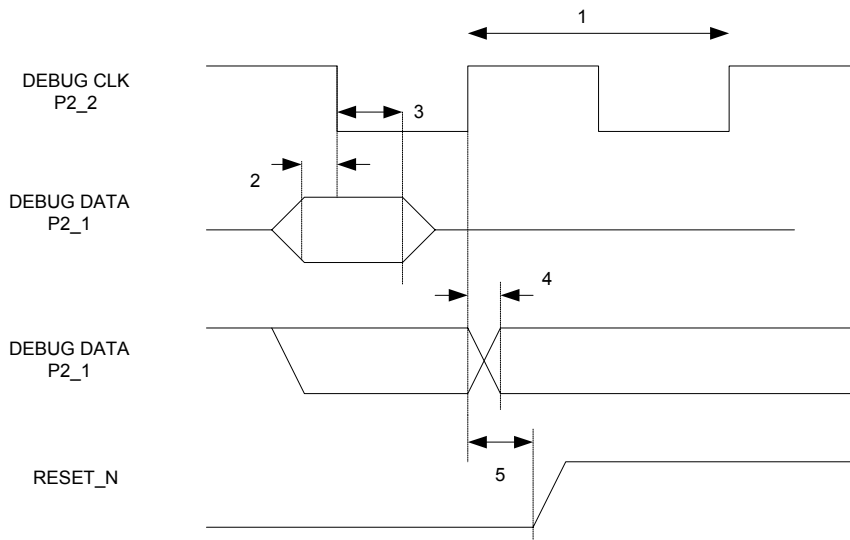

Figure 3: Debug Interface AC Characteristics
| Debug clock period | 31.25 | | | ns | See item 1 Figure 3 |
| Debug data setup | 5 | | | | See item 2 Figure 3 |
| Debug data hold | 5 | | | | See item 3 Figure 3 |
| Clock to data delay | | | 10 | | See item 4 Figure 3, load = 10 pF |
| RESET_N inactive after P2_2 rising | 10 | | | | See item 5 Figure 3 |